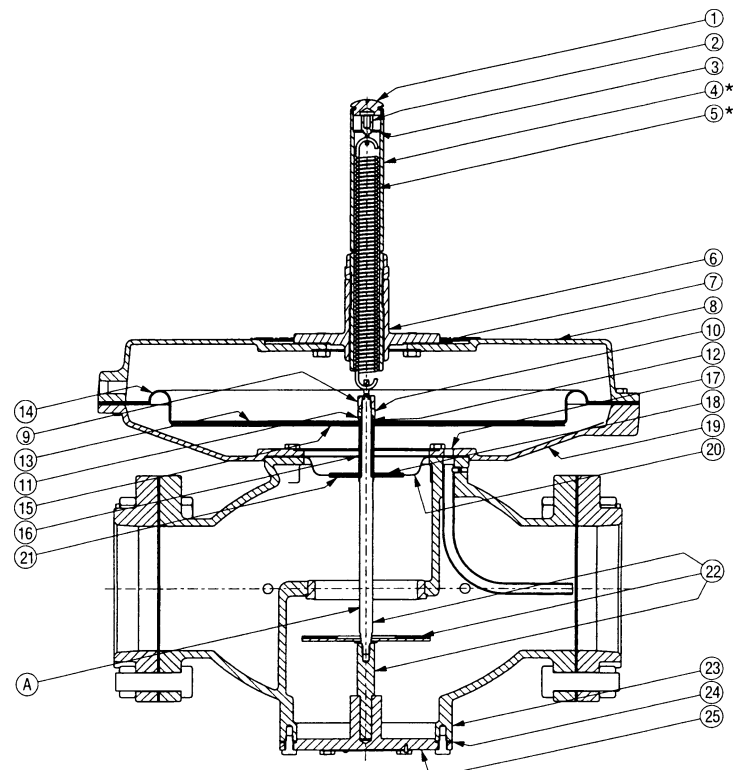

Figure 1. New diaphragm cover shown. Typical for 7216 and 7218-5, -6, and -7 only. See pages 3 and 4 for 7218 and 7216 replacement parts.
Repair Kits (RK) are used to upgrade -01* through -4 size regulators from the old, "flat" diaphragm style regulator to the new, "molded" diaphragm style regulator, as well as to repair "molded" diaphragm style regulators. Note that for -5 through -7 sizes, a Repair Kit is used to repair only a "molded" diaphragm style regulator. An Upgrade Kit (UK) is required for the -5 through -7 sizes to change from a "flat" diaphragm style regulator to a "molded" diaphragm style regulator because the Upgrade Kit includes a necessary new gas diaphragm cover (see Figure 1). *If style of regulator is not known, order a -UK for -5, -6, and -7 sizes to assure all required parts are supplied. For Viton regulator repair kits, use -VRK or -VUK suffix.*